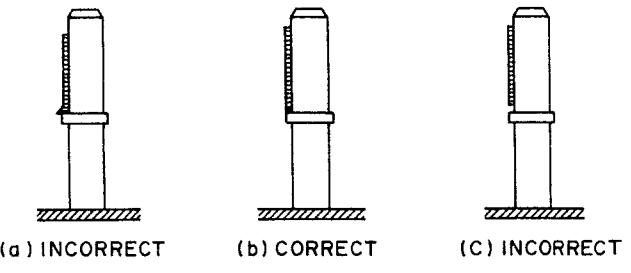

Fig. 4-3
- 4) Slightly turn the **(A)** screw until the tape edge barely touches the lower part of the TAKE-UP TAPE GUIDE without any curl or wrinkle as shown in Fig. 4-3.
- 5) Slightly turn the \odot screw until the tape edge barely touches the lower part of the TAKE-UP TAPE GUIDE without any curl or wrinkle as shown in Fig. 4-3.